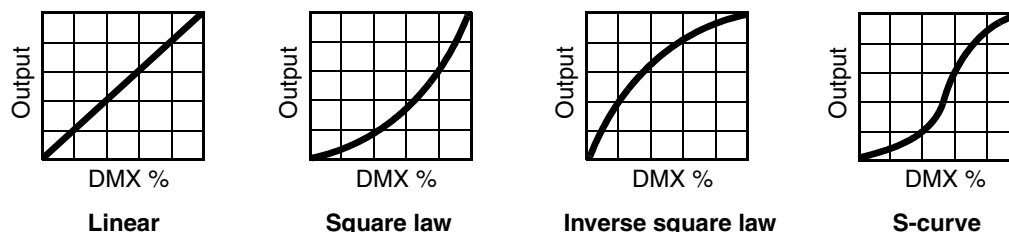

Figure 4: Dimming curve options
- **DIMMER CURVE** provides four dimming options (see Figure 4):